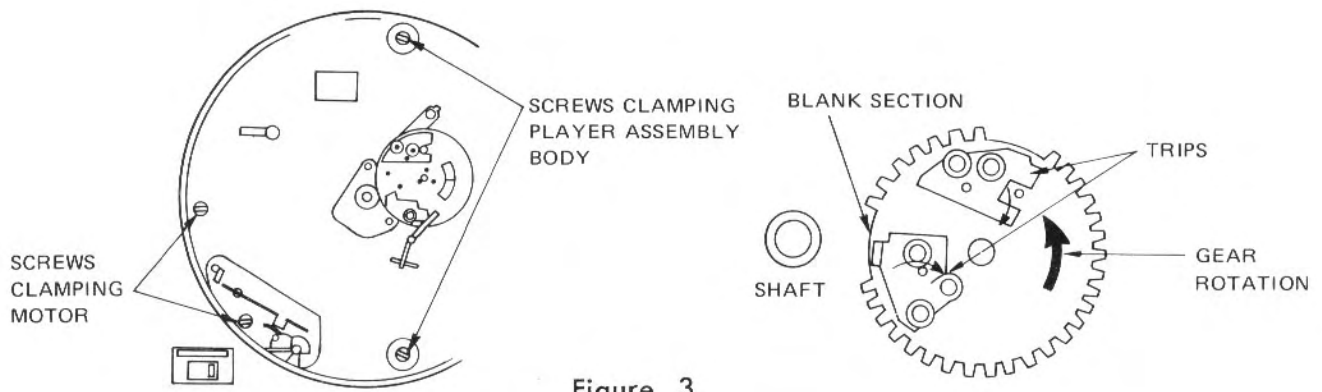

Figure 3
1. Loosen the screws clamping the player body, so that the body "floats" on the springs underneath. Remove the screws clamping the phono motor with a screwdriver or a coin. See Figure 3 for the locations of the
2. Set the blank section of the center gear opposite the turntable shaft by manually rotating the gear. Push the trips of the gear inward as shown in Figure 3. Never turn the gear and the turntable in the opposite direction of normal rotation.